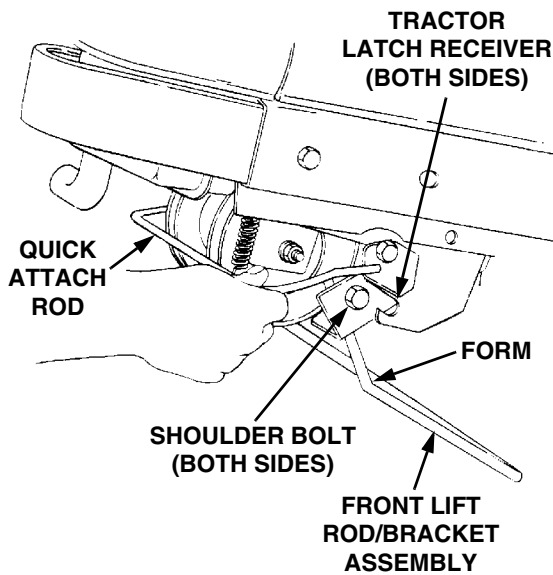
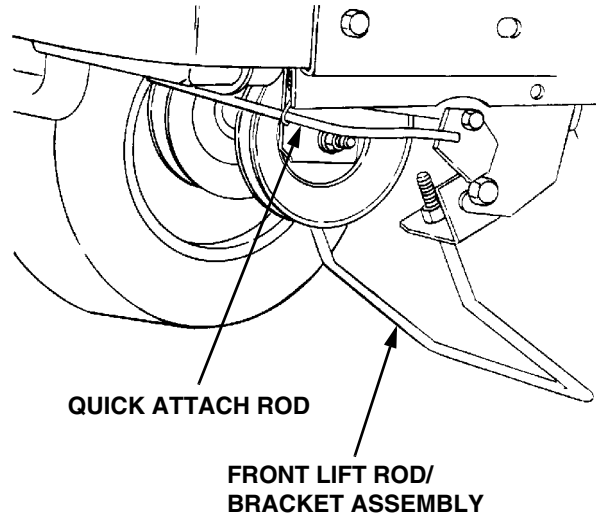

Figure 47
Figure 48
4. Refer to Figure 47 to ensure the correct orientation of the front lift rod/bracket assembly [form (bend) in sides of rod point downward]. From the front of the tractor, push downward and hold the tractor quick-attach rod. Slide the shoulder bolts on each side of the front lift rod/bracket assembly fully into the left and right tractor latch receivers. Release the tractor quick-attach rod to capture the front lift rod/bracket assembly in the tractor latch receivers (Refer to Figure 48).